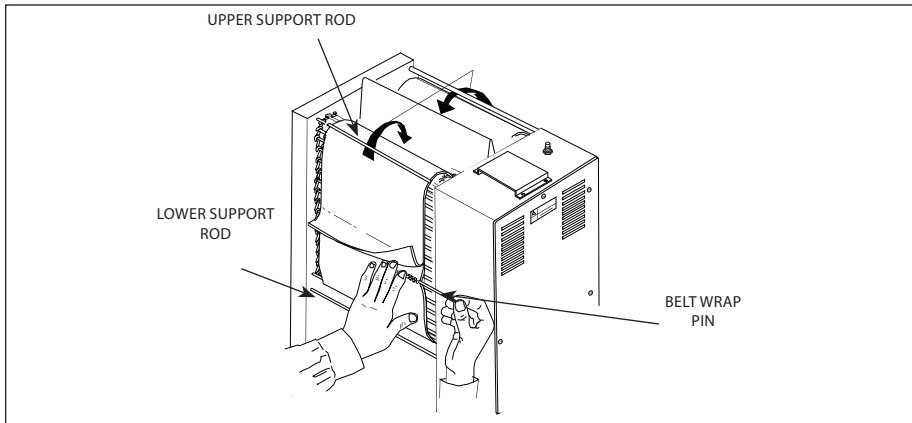

Figure 10. Installing Belt Wrap
6. Install the new Belt Wrap(s) around the Conveyor Belt Chains inside the yellow rods with the zipper flap exposed and hanging down (Figures 10 & 11).